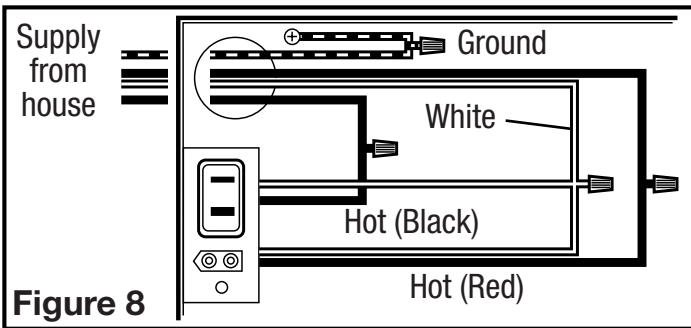

Figure 8
- 1a. From where you have access to inside the fan's junction box, connect the one white wire from the house to both the white wire from the fan's light receptacle and the white wire from the fan's exhaust receptacle. Connect the first black wire from the wall switch to the red wire from the fan's light receptacle. Connect the second black wire from the house to the fan's exhaust receptacle. Connect the ground wire from the house to the green wire from the fan's grounding screw (**Figure 8**). Use approved methods for all connections.